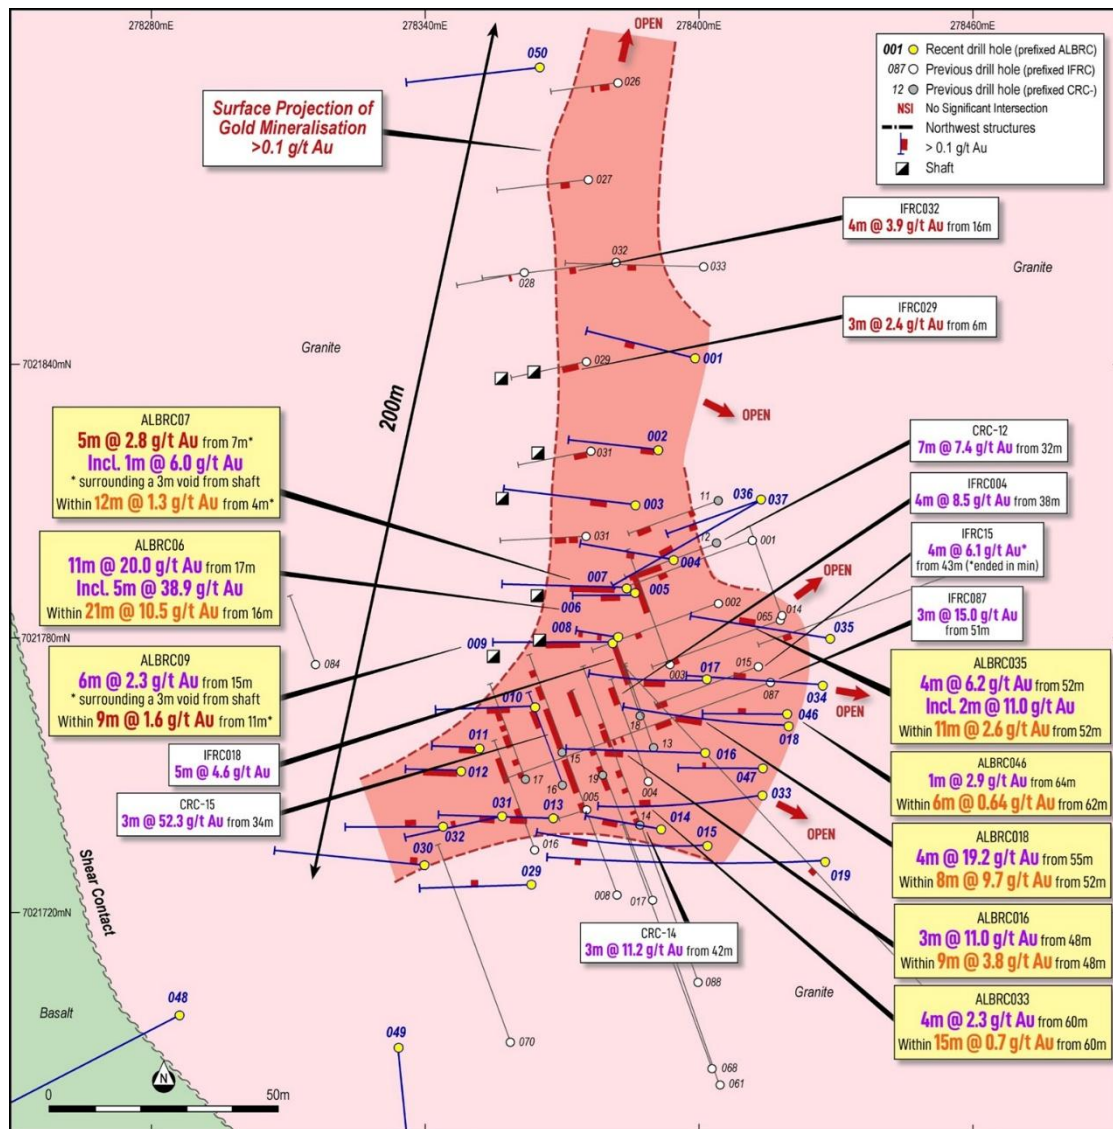

Figure 5: Plan map of the Collavilla prospect showing highlight intersections to date.
- Collavilla:** 6m at 0.6 g/t Au from 61m including 1m at 2.9 g/t Au (ALBRC046) which shows the mineralisation is still open at depth and also particularly to the east of intersection in ALBRC035 which intersected 4m at 6.2 g/t Au and open so **further drilling is warranted** (Figure 5). 3D modelling of the ore shoots and their geometry is currently underway, enabling Albion to more effectively target these structures in future drilling. At Ives, gold mineralisation is hosted within shear zones where deformation has created dilatant zones, such as tension fractures and bends that act as conduits for gold-bearing hydrothermal fluids. These shear zones exert a strong control on the distribution and geometry of ore bodies by providing structural pathways for fluid flow and by enhancing gold deposition through ductile deformation and associated chemical processes. Mapping the distribution of gold and determining plunge directions will be important.